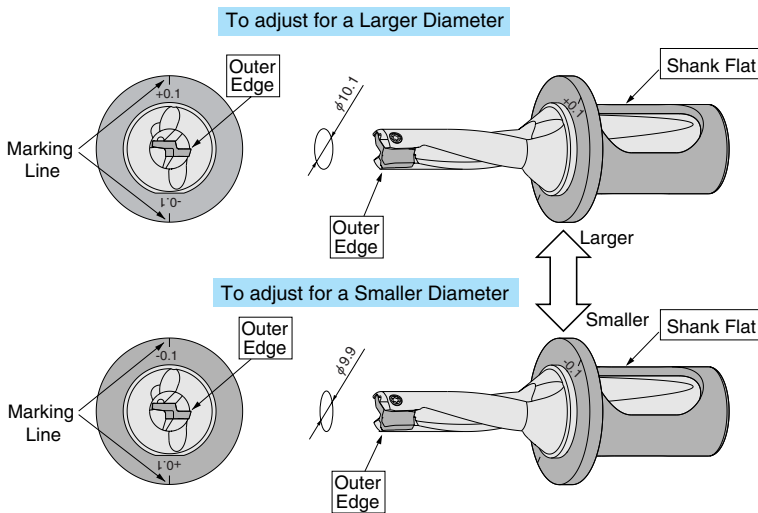

Fig.1 Diameter Adjustment Method (e.g.) $\phi 10$ Drill
- ① Set the outer edge horizontally with 90° to the marking line on the sleeve (Fig.1)
- ② To adjust to a larger diameter, align the +0.1 mark on the sleeve with the flat on the drill shank. To adjust to a smaller diameter, align the -0.1 mark on the sleeve with the flat on the drill shank.
- ③ Tighten the bottom screw firmly which is directly touching the holder drill. Slightly tighten the upper screw which is directly touching the sleeve.